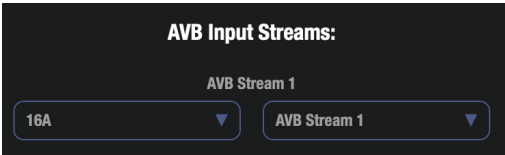

Figure 9-2: Connecting an input stream.
- 4 Go to the Device tab. In the *AVB Input Streams* section choose the 10pre as a source device for one of the streams and choose *Media Clock* for its *Source Stream* (Figure 9-2 on page 75), if compatible. If not, choose any available input stream from the menu.